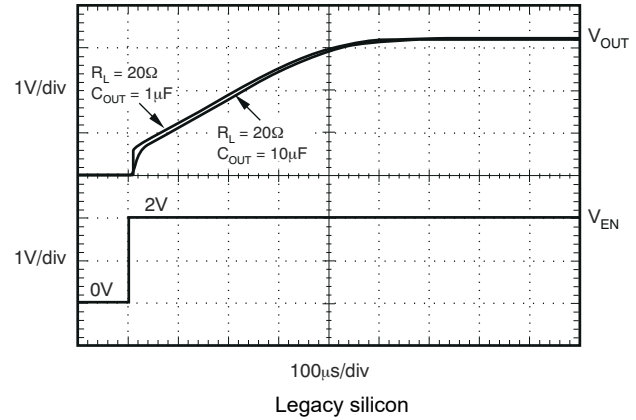

图 5-32. TPS73701 Turn-On Response
The enable pin (EN) is active high and compatible with standard TTL-CMOS levels.  $V_{EN}$  below 0.5 V (maximum) turns the regulator off and drops the GND pin current to approximately 10 nA. When EN is used to shutdown the regulator, all charge is removed from the pass transistor gate, and the output ramps back up to a regulated  $V_{OUT}$  (see Figure 5-32).